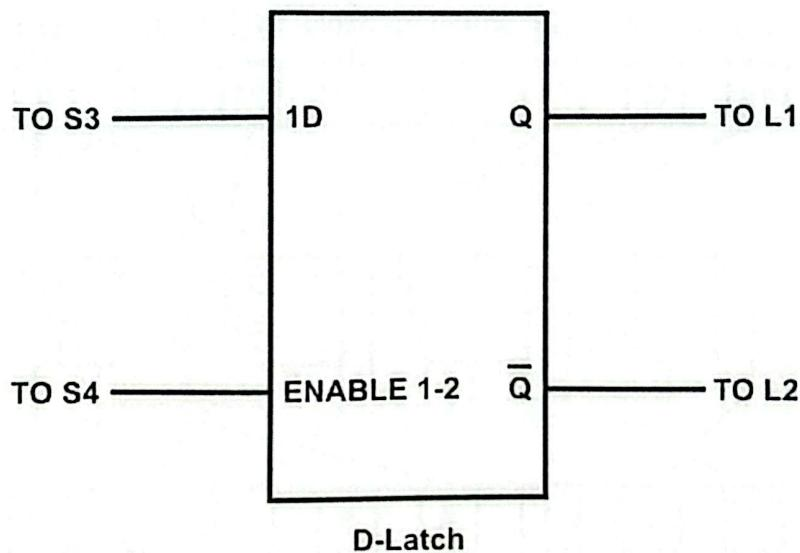

Fig. 19.1
4. Wire the circuit according to the diagram in Figure 19.1 by consulting IC's data sheet in Figure 19.2.